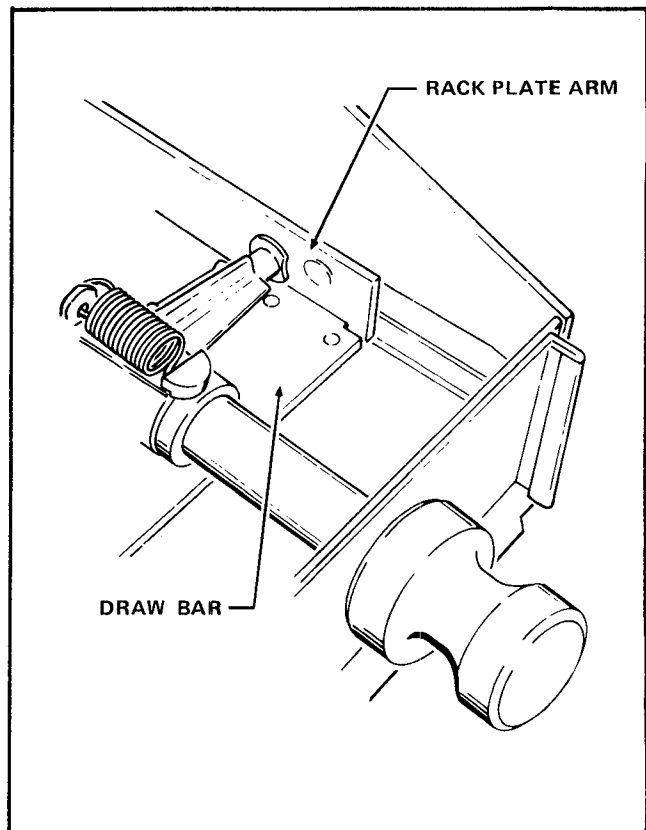

FIGURE 6-5
2. Check to be sure the right end of the Draw Bar is properly fit under the notched part of the Rack Plate Arm. Compare with the left end fitting of both parts. See Figure 6-5.